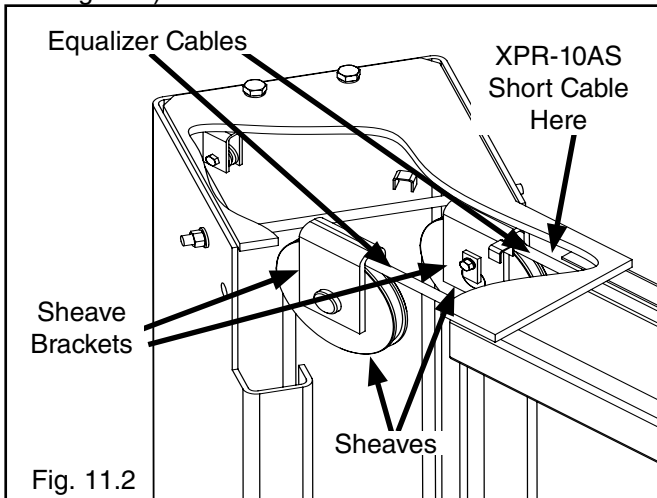

Fig. 11.2
3. Route the cables through the sheave brackets and reinstall the sheaves. (See Fig. 11.2)